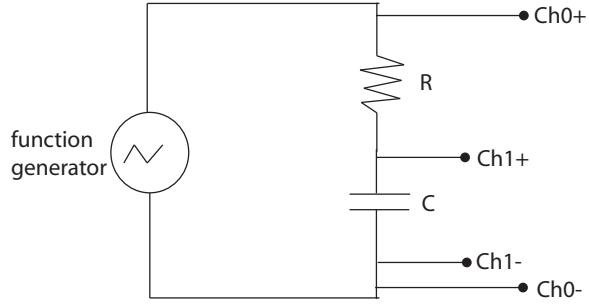

Figure 11: An RC circuit is connected to a function generator to measure the charging of the capacitor as a function of time.
- Choose a resistor and capacitor combination giving a time constant $\tau = RC$ in a convenient range to measure using the ADC in the computer ($\approx 10^{-3}$ seconds). Build a series connection circuit on top of the aluminum break-out box. The circuit you are building is shown in figure 11.